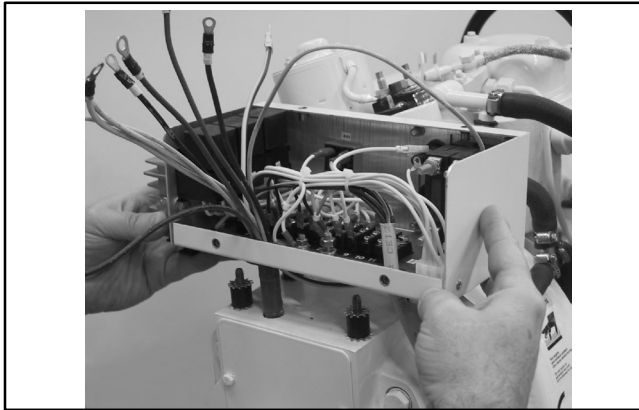

Figure 10-5 Controller Box Removal
3. Carefully lift the controller box. See Figure 10-5.